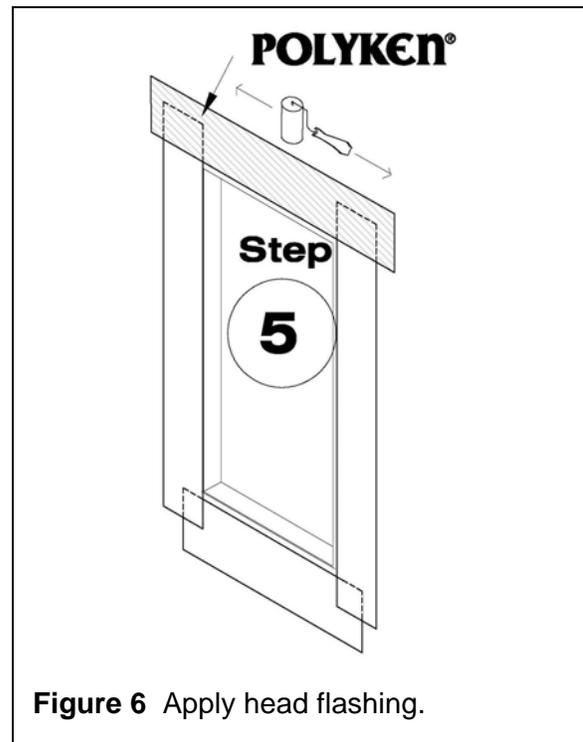

Figure 6 Apply head flashing.
Step 5. Precut Polyken® or Nashua® head flashing tape to extend a minimum of 6" beyond the jambs of the rough opening. Peel off release liner and adhere Polyken® or Nashua® head flashing over head opening and jamb flashings (see Figure 6).